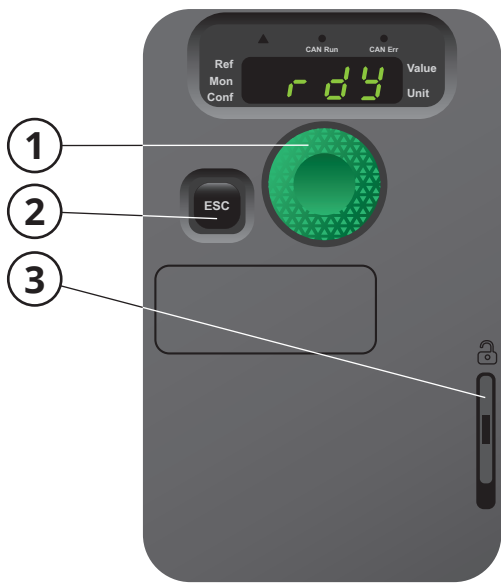

Fig. 1
All programming is executed on the keys at the front display (see **Fig. 1**). The jog dial (1) is used for navigating the menus and to select or confirm information. The ESC key (2) quits a menu/ parameter or clears and reverts the value. The front panel is opened via button (3).
Click twice on the jog dial (1, **Fig. 1**) and set the desired reference pressure by turning the jog dial.